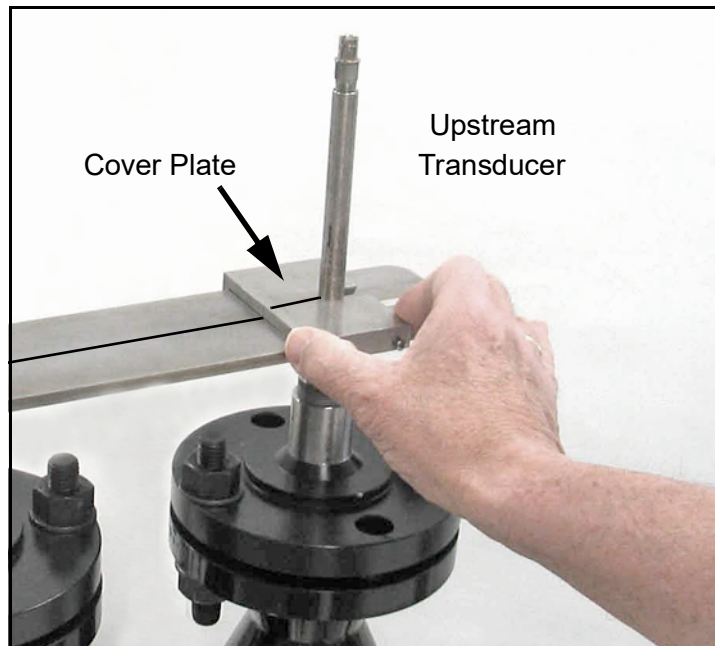

Figure 10: Installing the Cover Plate
- Place the cover plate on top of the guide plate and slide it as far as possible until it is positioned around the upstream transducer, as shown in *Figure 10* below. Then, tighten the screws to secure it.